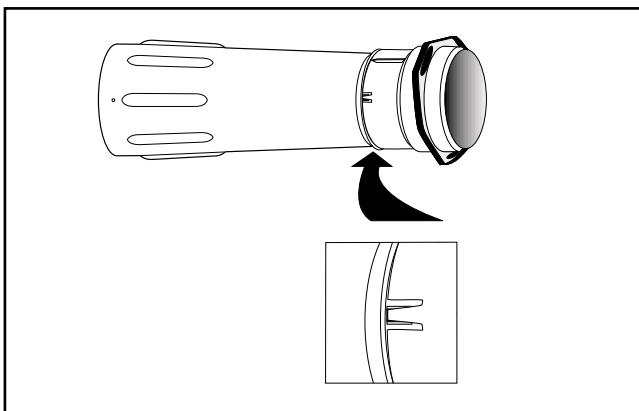

**Fig. 9**
5. **Grasping the upper vac tube firmly with both hands** (Fig. 9), turn the vac tube **clockwise** (Fig. 10) until the tabs of the adapter (2) snap into the square indentations of the upper vac tube (2) (Fig. 11).